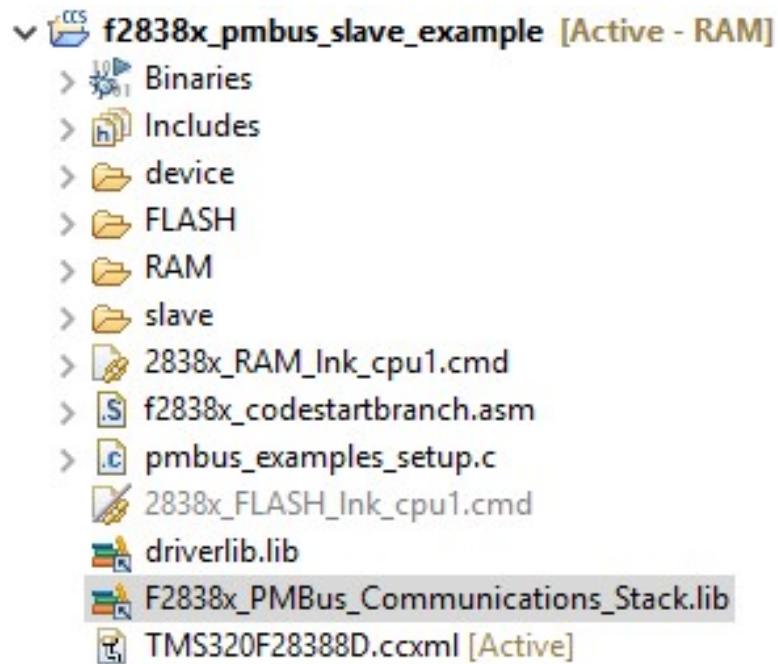

Figure 4.3: Adding the library and location to the file search path
2. Add the Communications Stack library (replace "device" with F28002x, F28004x, or F2838x), '**<device>_PMBus_Communications_Stack.lib**' to the project explorer as shown in Fig. 4.3. Also add the device driver library.